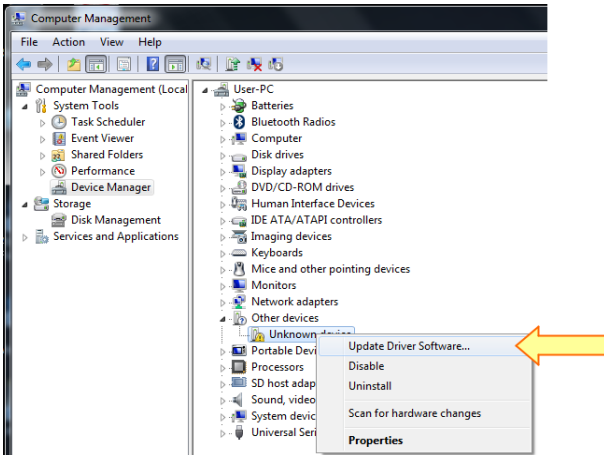
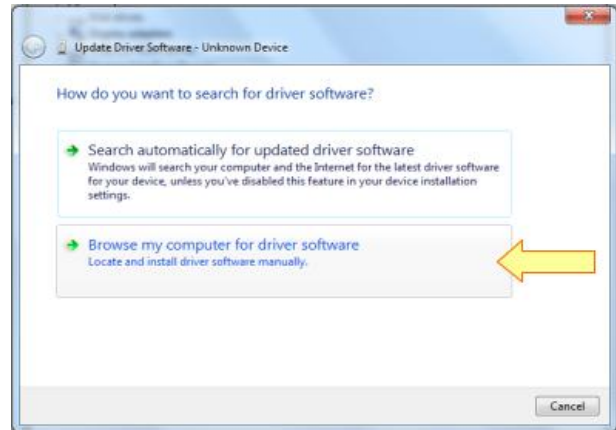
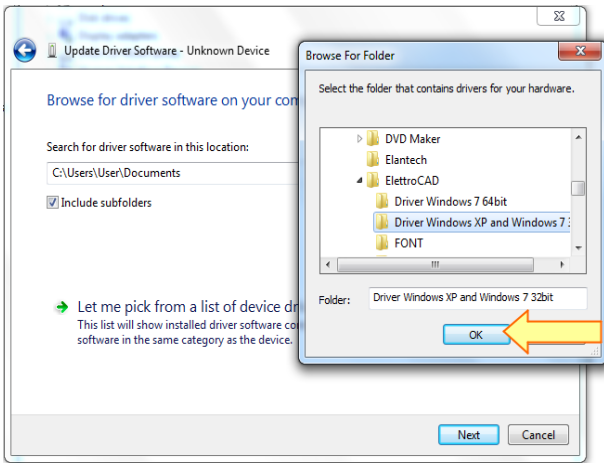
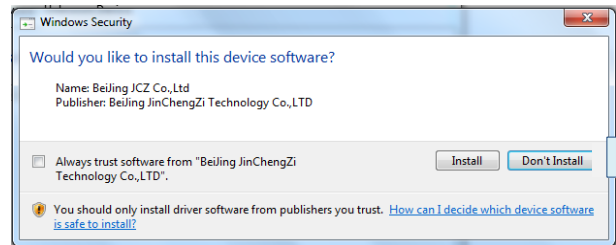

Fig. 6-17 – Unknown device identification
Fig. 6-18 – Driver search for unknown device
Fig. 6-19 – Driver path selection for unknown device
Fig. 6-20 – Software installation
- Find the correct drivers for the unknown device in the installation folder of EzCad2, following the steps indicated in Fig. 6-17, Fig. 6-18, Fig. 6-19 and Fig. 6-20.